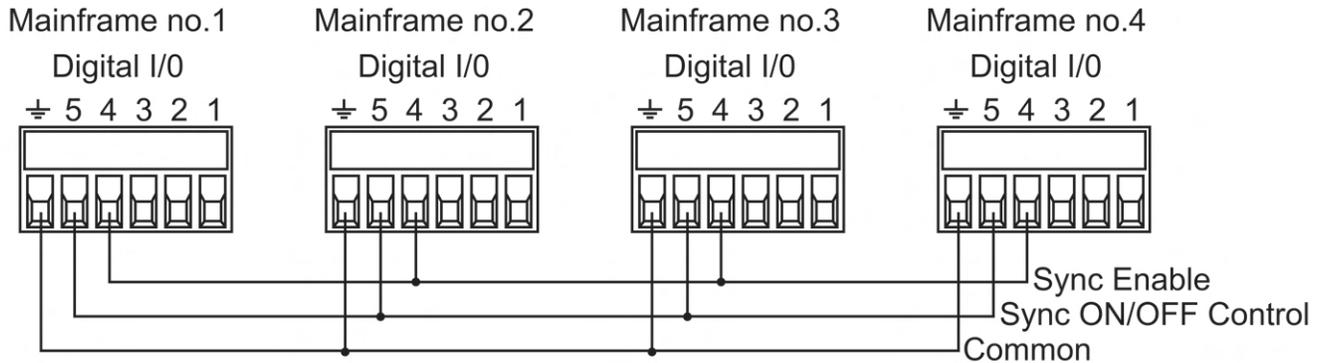

Figure 10.8 Synchronization Configuration
Step 1. Connect PIN5, PIN4, and the digital ground PIN as shown in **figure 10.8**.